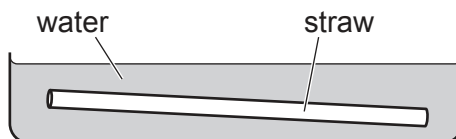

Fig. 1.1
2. The container of water must be large enough for the straw to be fully immersed lengthways as shown in Fig. 1.1. A plastic washing up bowl or small container is suitable. There must be approximately 3 cm depth of water in the container. With sufficient time before the examination to make sure that any bubbles have dispersed, add 1 **small** drop of washing up liquid (or similar surfactant) to the water in the container.